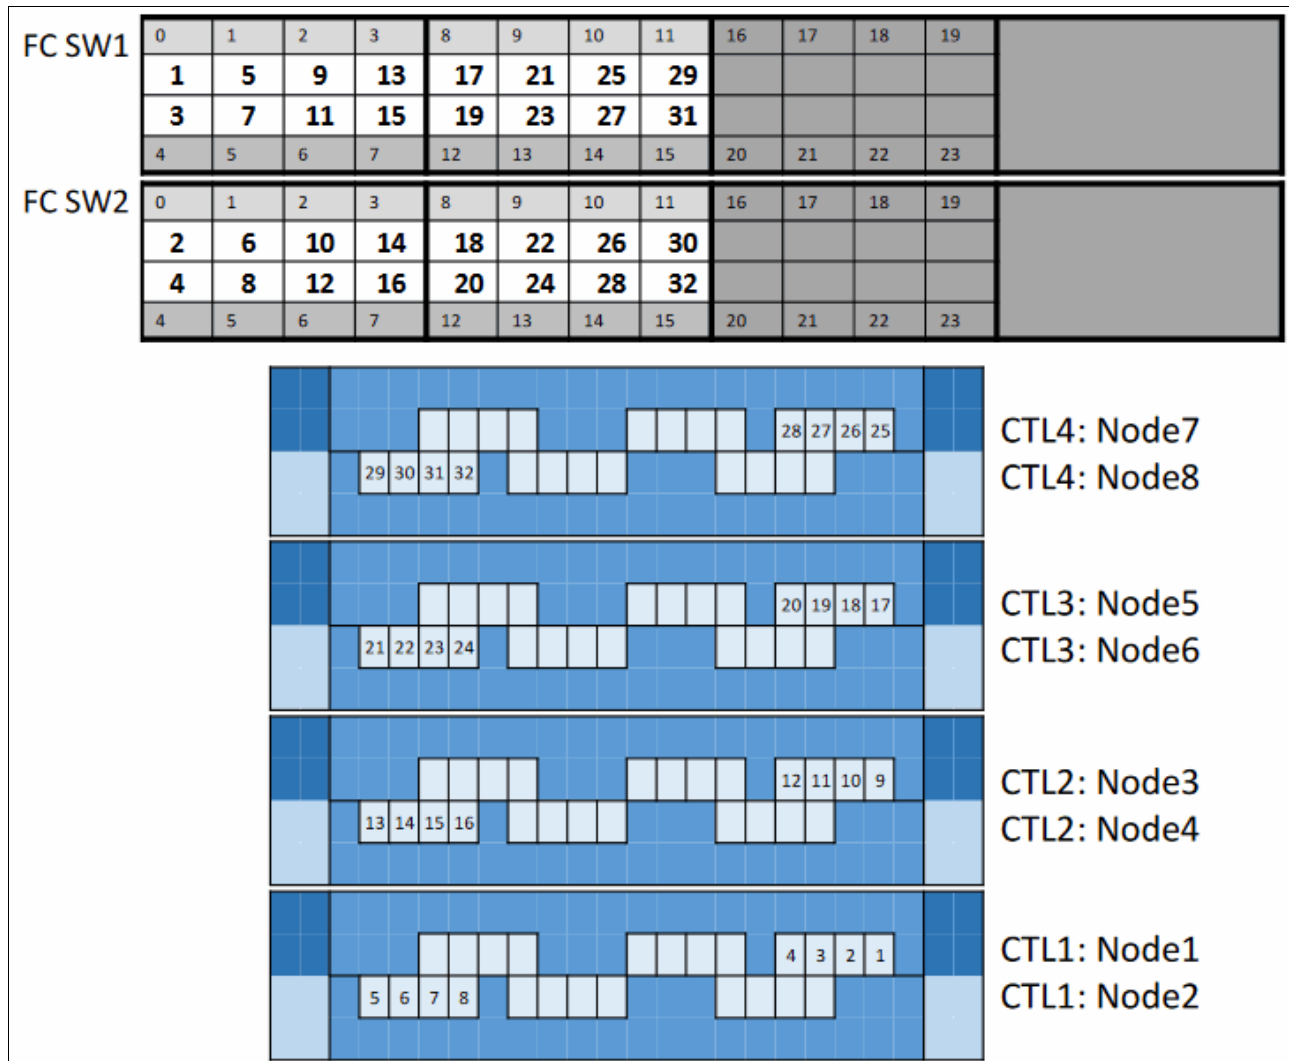

Figure 1-15 IBM FlashSystem 9200R Rack Solution with IBM SAN24B-6 switches
Figure 1-15 shows the IBM FlashSystem 9200 Rack Solution inter-system FC ports and the connections to the IBM SAN24B-6 switch ports.
- ▶ Shows the SAN24B-6 cabling diagram, where the top part of Figure 1-15 represents the SAN24B-6 port configuration layout.